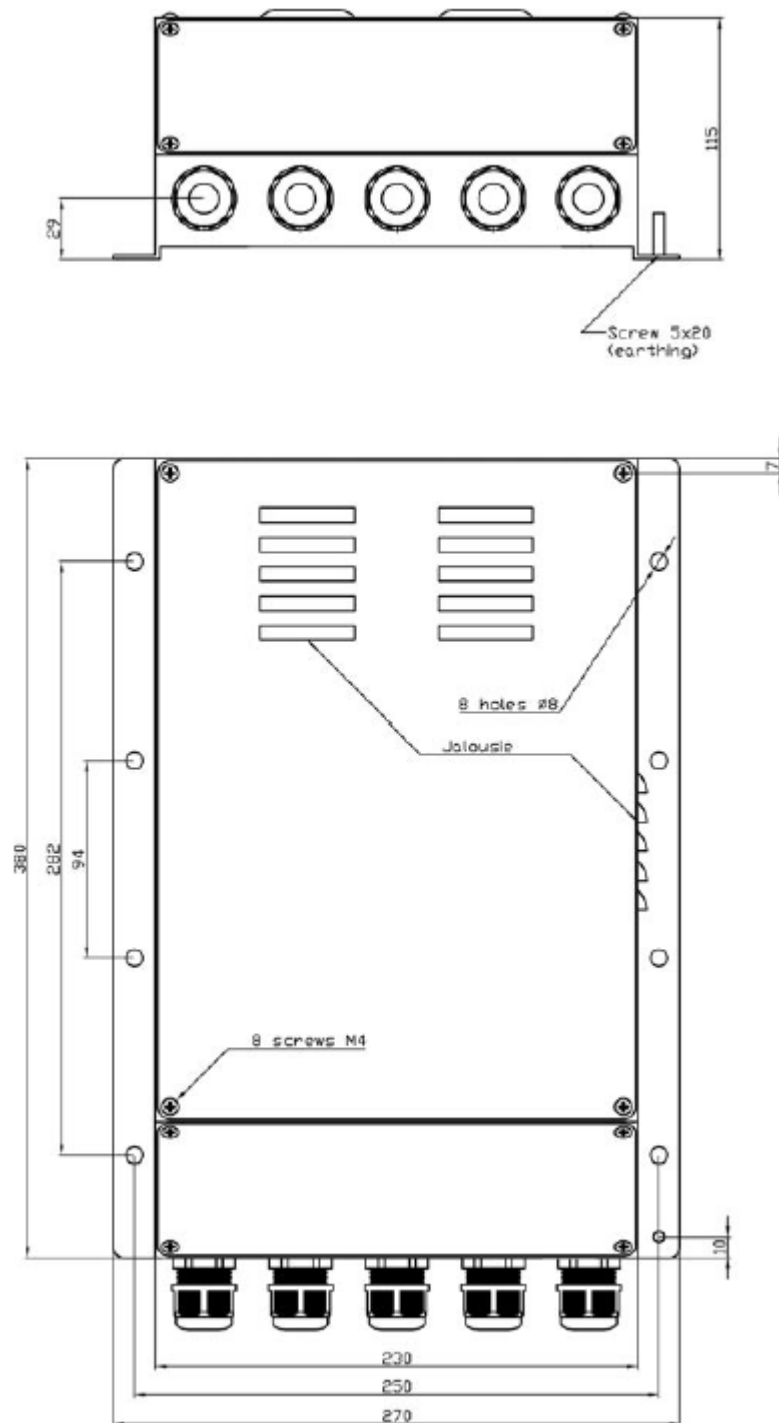

Figure 2 PS-103-20A overall dimensions.
2. Fix strongly PS-103 case on a vertical wall and with an effort of a hand check up the security of attachment (for overall dimensions see Figure 2);